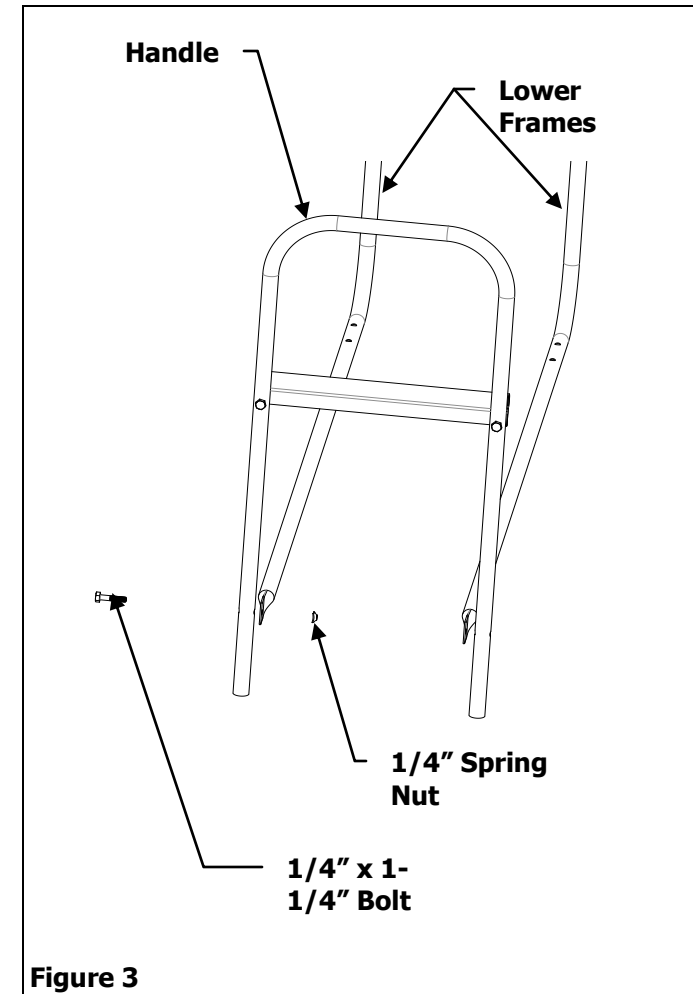

Figure 3
3. Insert a 1/4" x 1-1/4" Bolt into the Handle then through Lower Frame and secure with a 1/4" Spring Nut. Repeat the process on the other side. See Figure 3.